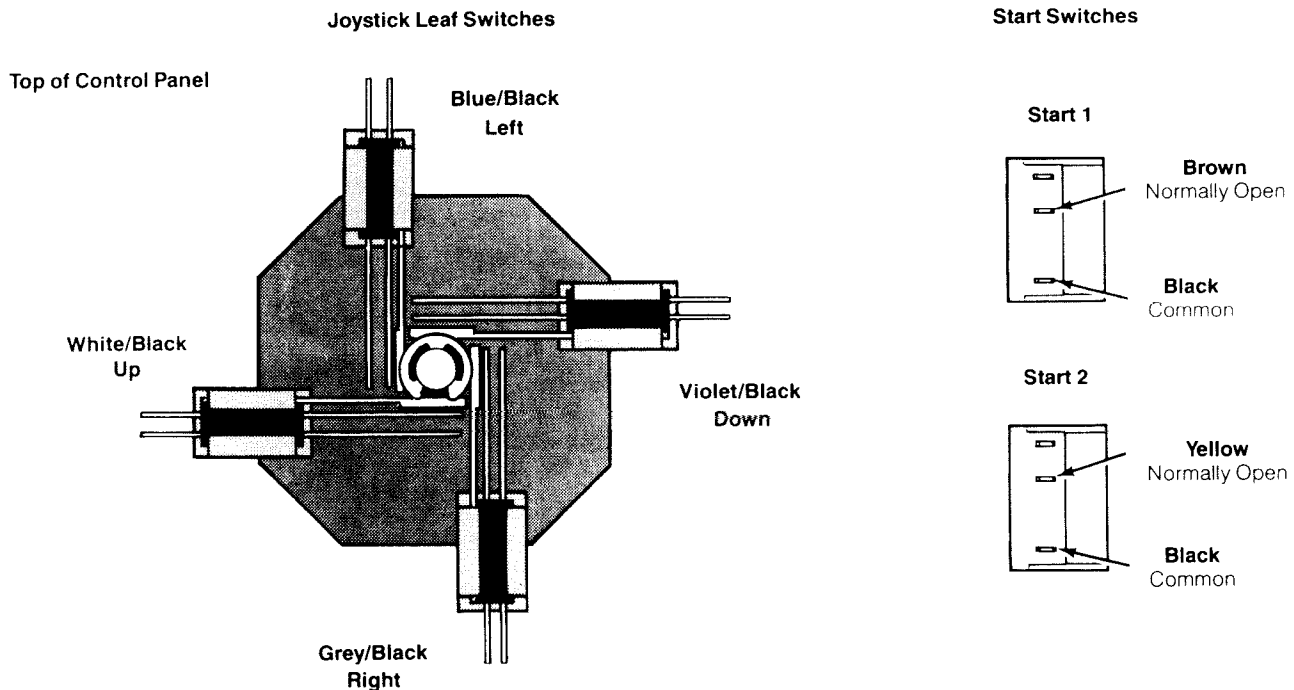

Figure 4-1 Wire Connections to Joystick Leaf and Start Switches
3. Reconnect the harness wires as shown in Figure 4-1. Make certain the right colors go to the right tabs on the switch.